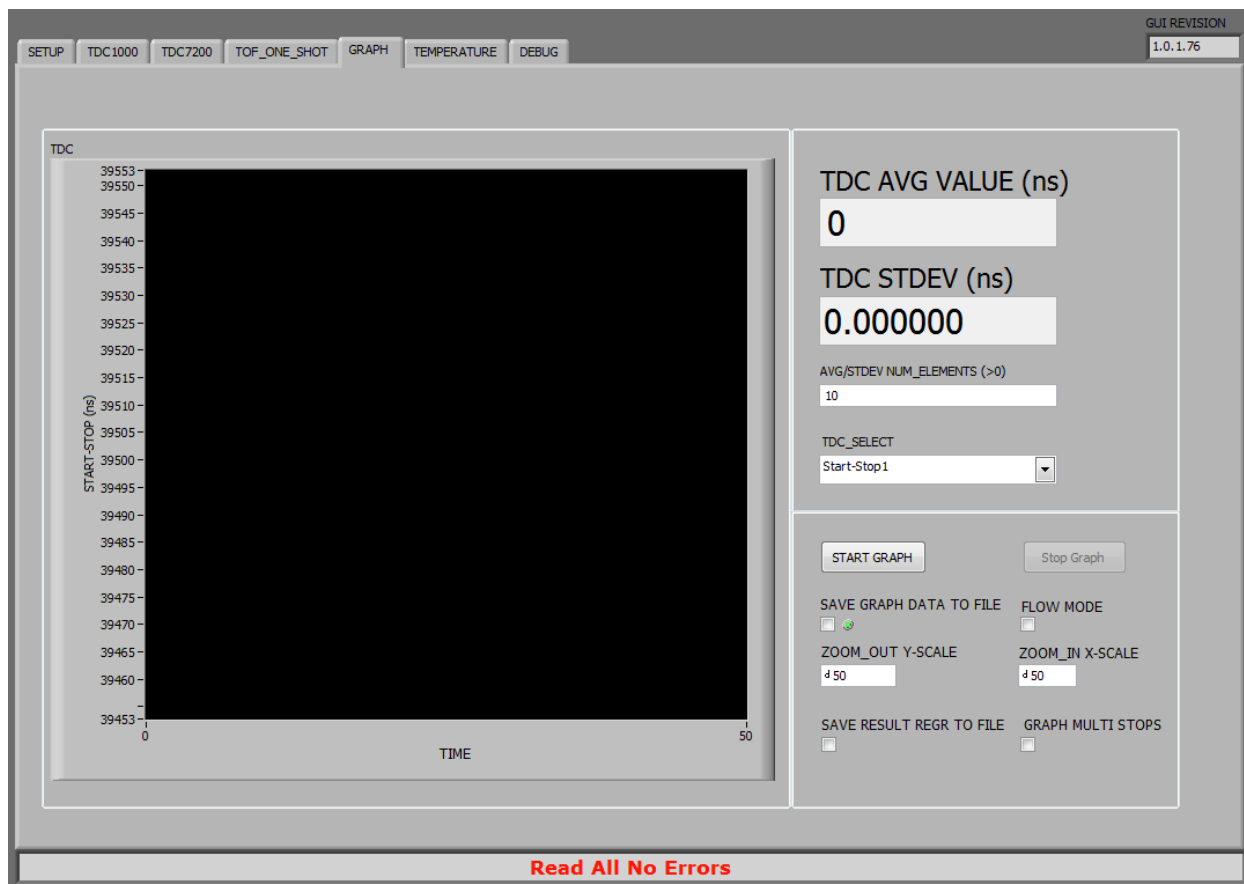

Figure 7. EVM GRAPH
2. The message at the bottom of Figure 7 -- **“Read All No Errors”** -- means that the GUI is up and running and all the registers and hardware connection are correct. Otherwise, refer to Section 4 and make sure to follow all the steps.